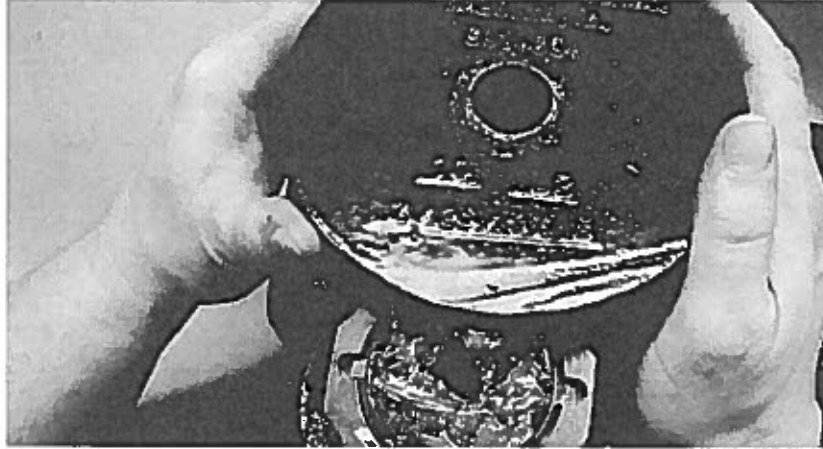

Figure 3
4. Slide the pitman arm puller (ZTSE4439) over the pitman arm (Figure 3).